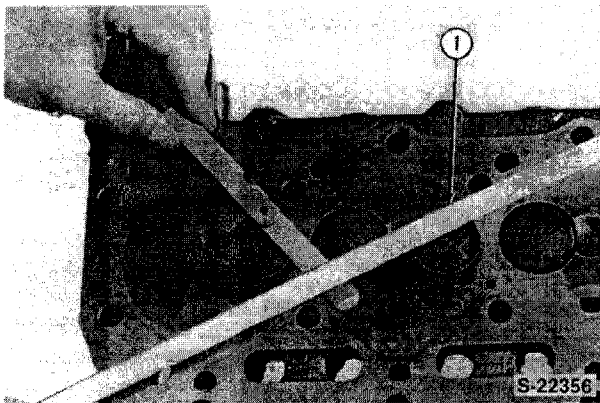

Figure 15
7. Use a straight edge and feeler gauge and check the cylinder head for warp length wise, cross wise and diagonally, Figure 15.